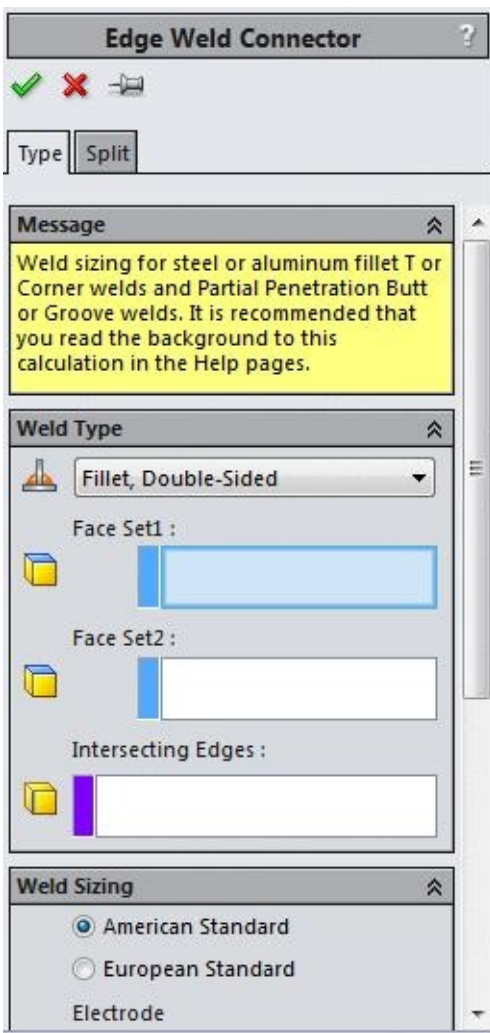

Figure-77. Edge Weld Connector PropertyManager
- Click on the **Edge Weld** button from the **Connections Advisor** drop-down. The **Edge Weld Connector PropertyManager** will be displayed as shown in Figure-77.